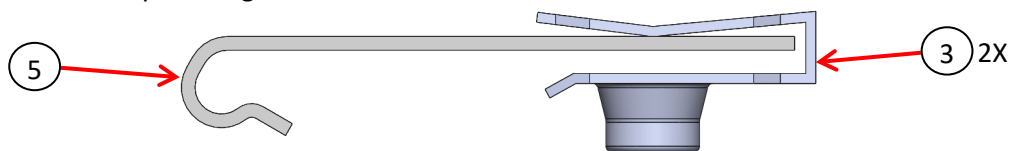

Figure 2
4. Install U-nut on to J-clip. See Figure 2.